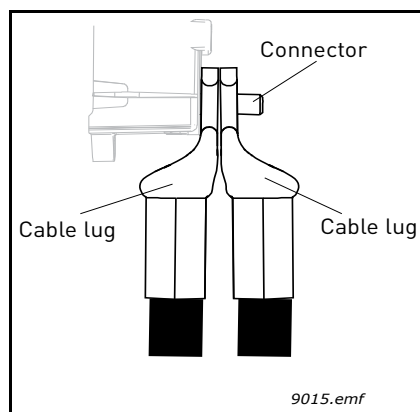

Figure 40. Placing two cable lugs on top of each other
- **NOTE:** If you use several cables on one connector observe the position of cable lugs on top of each other. See Figure 40 below.